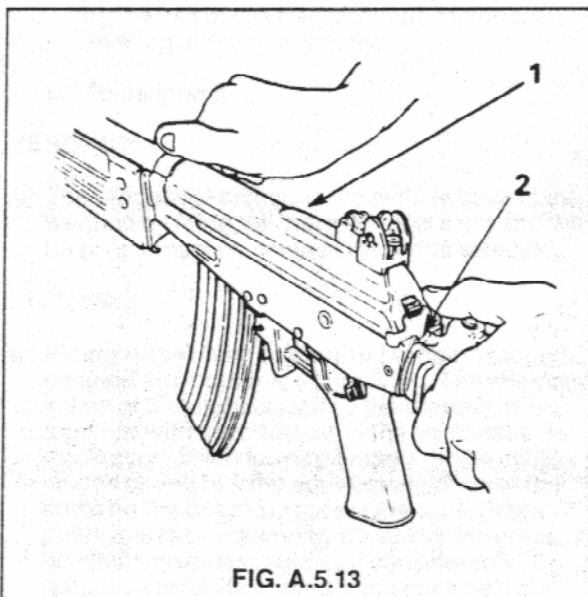

FIG. A.5.13
17. Hold cover with right hand, fit cover's front end to the piston guide tube's rear end and cover's rear end to the rifle's receiver. You should be able to see the return spring guide located in the body through the cover opening. Cock the rifle and make sure that the return spring catch is engaged and is now located in the cover opening. See Fig. A.5.13.